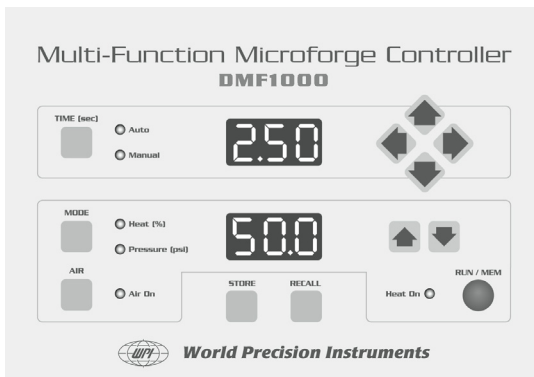

Fig. 5—Microforge Control Unit
The **DMF1000** Control Unit (Fig. 5) supplies power to the heating filament. The Control Unit's output power is electrically stable and reproducible. Fluctuations in the mains voltage input will not affect the output to the filament. This ensures the same polishing results day to day at the same settings. The unit senses which filament is used and automatically adjusts the heat output.
- The **air pressure display** can be adjusted from 0 to 60 PSI with the control knob found on the back of the unit (Fig. 5). The lower window displays the